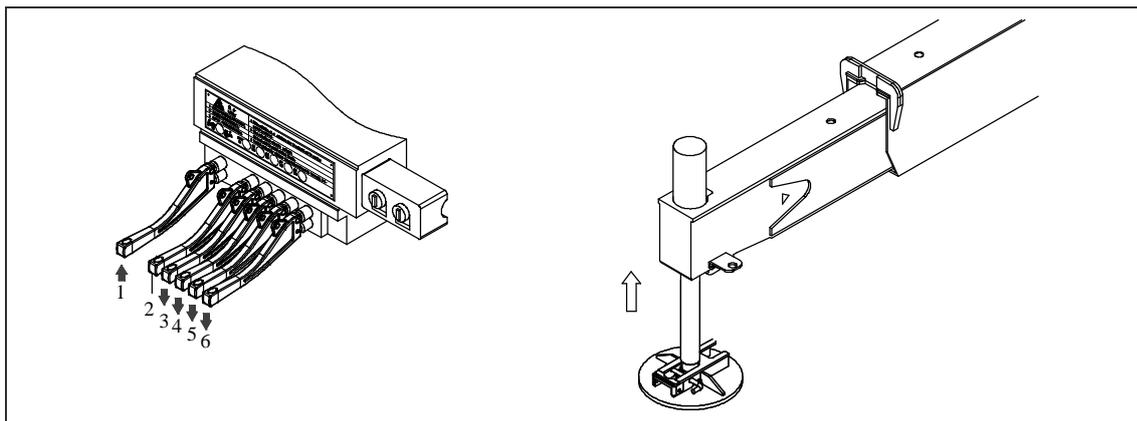

Figure 04 – 23
d) As illustrated in Figure 04 – 24: